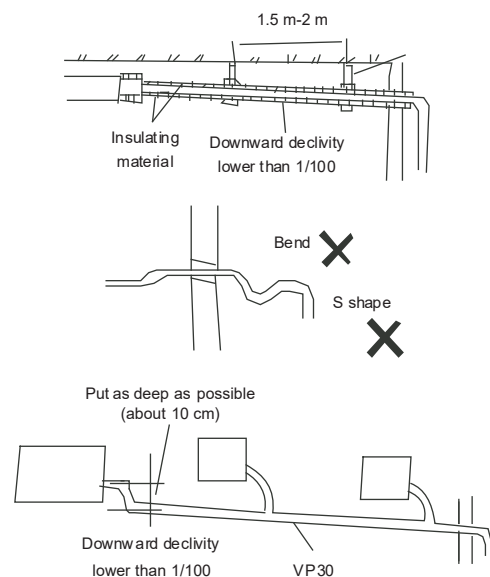

Fig. 7-1
- Refer to Fig. 7-1 for the installation of the pipes.